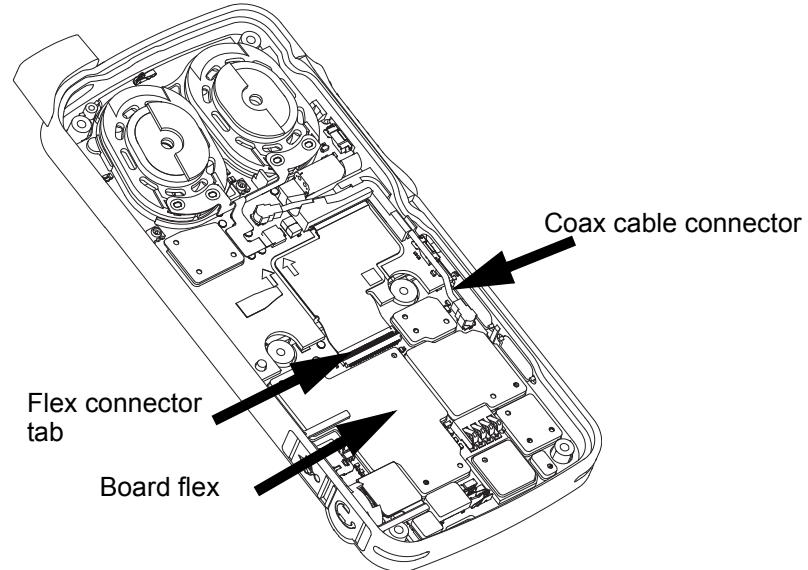

Figure 5-26. Board flex reassembly
3. Plug in the coax cable connector to the main board as shown in Figure 5-26.